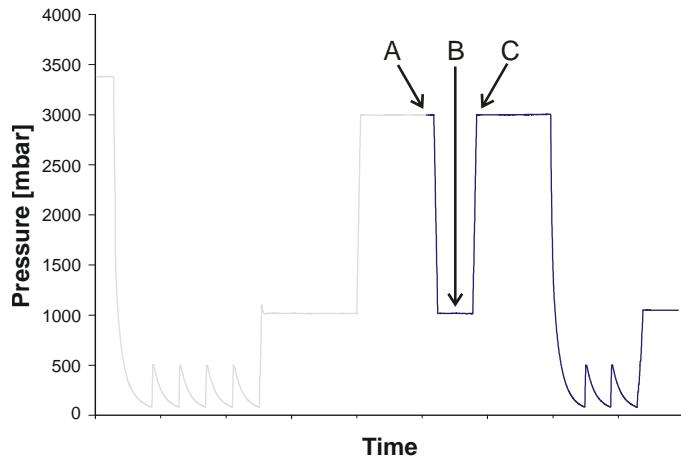

Figure 85: Flushing routine (cycles if leak detected)
The routine that is started if a leak occurs is shown in Figure 85.
Figure 85 shows the additional leak detection cycles in the flushing routine. Each of these cycles is indicated by a corresponding message on the hand-held keypad:
- LEAK DETECTED - PLEASE WAIT (see Figure 85,A):